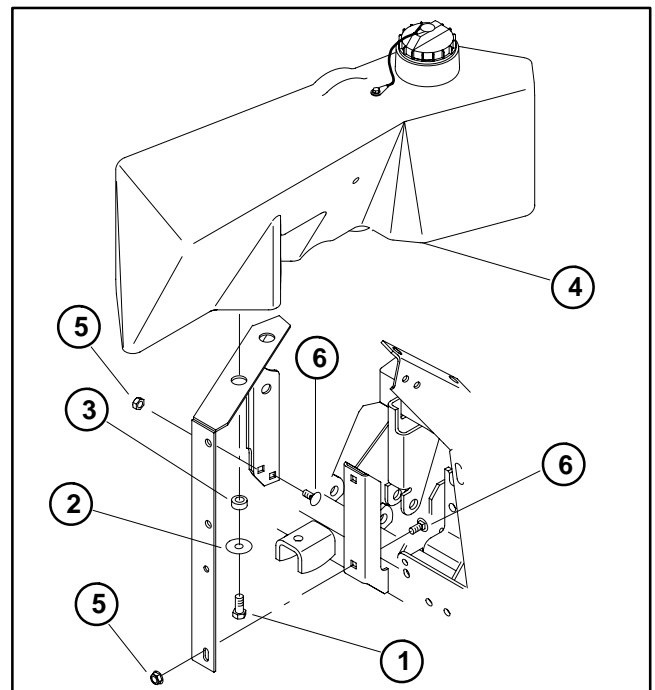

Figure 29
5. Remove the two bolts, flat washers, and grommets holding the tank to the U-bracket support. Remove the nuts, carriage bolts, and U-bracket support from the frame (Fig. 29).
through the flat washers and grommets; apply loctite to capscrew threads. Secure the hydraulic tank to the U-bracket support with the two capscrews (Fig. 29).